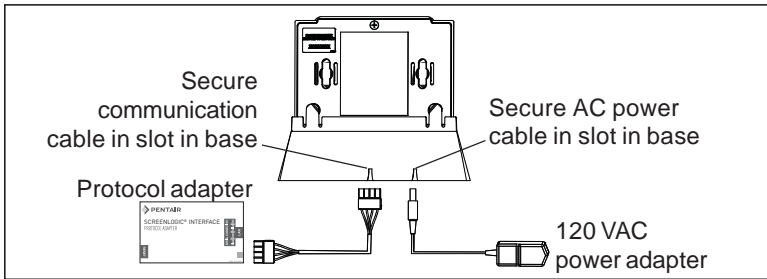
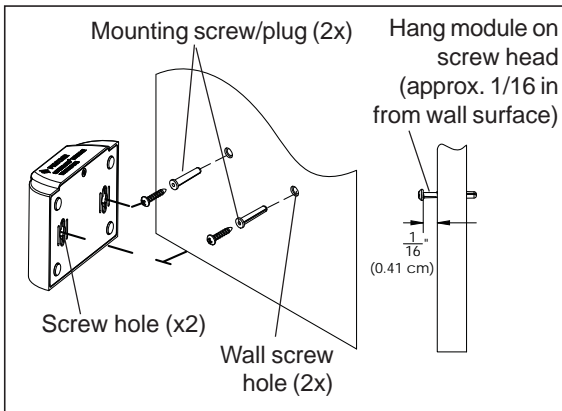
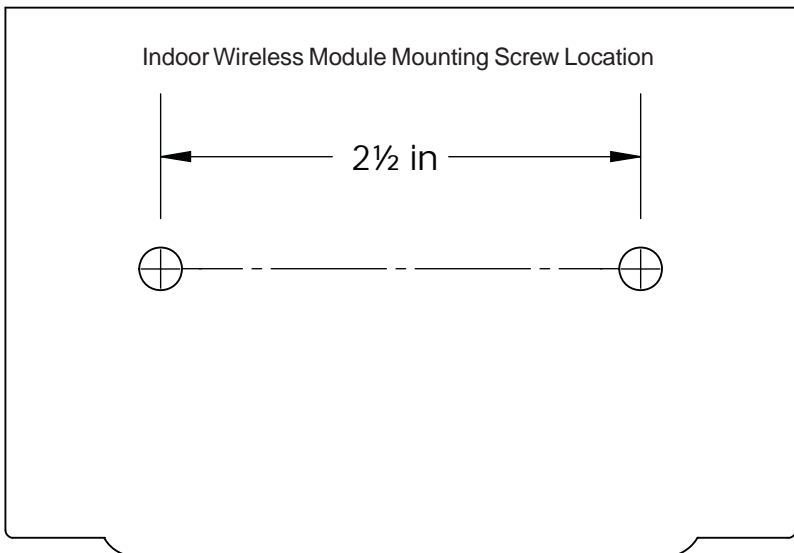

Figure 1: Cradle/Desk Mount the Indoor Wireless Transceiver
Figure 2: Wall Mount the Indoor Wireless Transceiver
Figure 3: Wall Mount Template for Indoor Wireless Transceiver
1. Using the 1 ft. connection cable, connect one end of the cable to the Protocol Adapter and the other end to the Indoor Wireless Transceiver. See Figure 1 and Figure 2. The cable plugs are keyed for easy connection.
Cradle/Desk Mount the Indoor Wireless Module (Figure 1)
1. Insert the power cable into the base of the Indoor transceiver cradle. Fasten the cable into the cradle slot (see Figure 1 on next page).
2. Insert the connection cable into the base of the Indoor transceiver cradle. Fasten the cable into the cradle slot (see Figure 1 on next page).
Wall Mount the Indoor Wireless Transceiver (Figure 2 and Figure 3)
2. Drill two holes (0.223 in) 2-1/2 inches apart as shown on the template (see Figure 3 on next page).
4. Insert the screws into the wall plug. Don't insert the screws all the way into the wall, leave about 1/16 in for the wireless transceiver to hang on the head of the screws (see Figure 2 on next page).